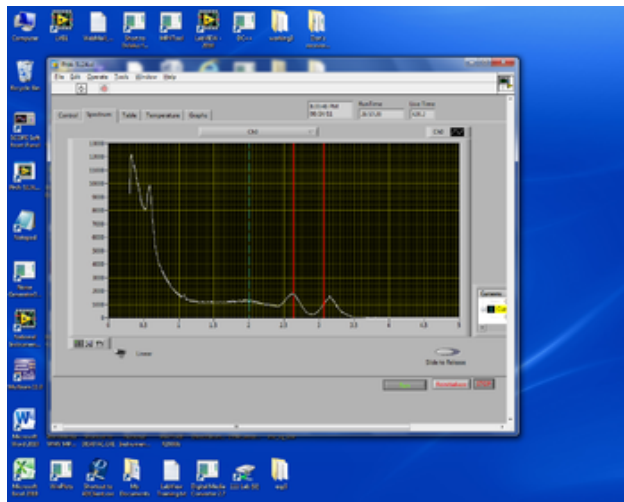

Figure 14: PHA display. Counts vs Energy of  $^{60}\text{Co}$
- (a) To start, plug the output of the amp into Channel 1 of the ADS (which is connected to the computer via USB). Then, run a pulse height measurement following the software instructions above. Using a  $^{60}\text{Co}$  source, for example, you should see a spectrum similar to Figure 14. (You can also use the saved .csv file for your own analysis; again, see instructions above.)